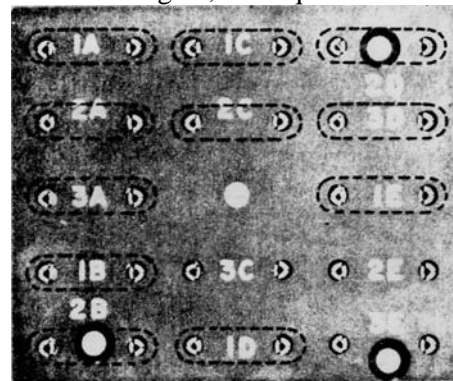

Figure 3-6. Crystal socket locations
*a. Selection of Crystals.* The crystals supplied in Crystal Unit Set, Quartz CK-31/FRC-93 cover the frequency ranges of 3.4 to 5.0 MHz and 6.5 to 30 MHz. Figure 3-6 shows crystal socket locations. Select these crystals as follows:
(1) If the lower edge of the desired 200-kHz band is 11.8 MHz or less, the required frequency is equal to the lower edge of the desired band plus 3.155 MHz. For example, if the desired band is 4.0 to 4.2 MHz, 4.0 MHz plus 3.155 MHz equals 7.155 MHz.
(2) If the lower edge of the desired 200-kHz band is 12.00 MHz or higher, the required
crystal mounting board and a front panel switch to allow selection of either board. The crystal-mounting board for extra-band operation is located on top of the chassis. If amateur band operation is not needed, extra-band crystals may be substituted in the crystal-mounting board under the chassis. BE SURE the crystals are plugged into appropriate sockets according to table 3-2 and figure 3-6. The transmitter can be operated at other frequencies outside the specified amateur bands or at other 10-meter frequencies by plugging the proper crystals into the mounting boards. Mark the desired lower band edge information on the white card in the BAND switch windows. Make sure this information is marked in the appropriate switch positions.